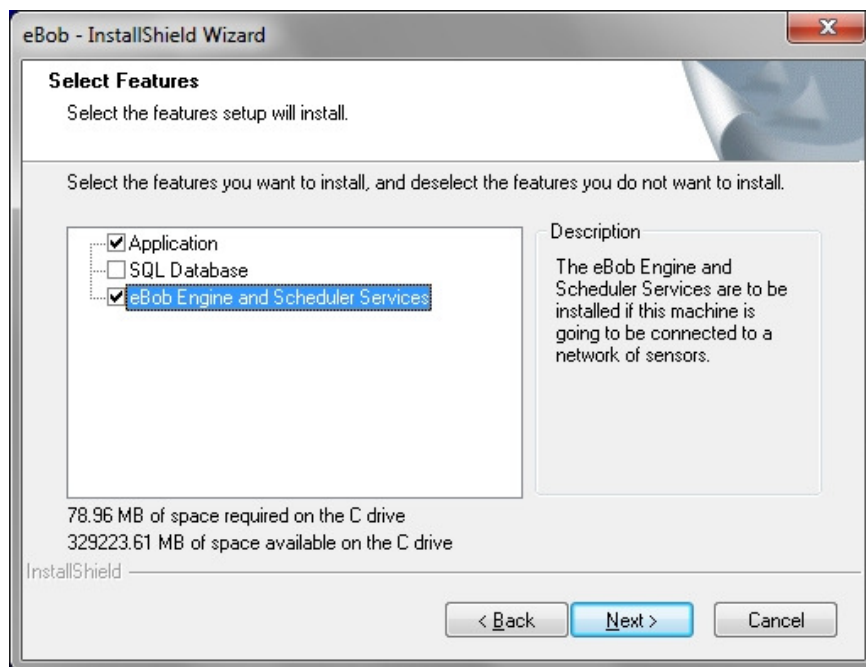

Figure 6
- c. If this installation is for a Site, check Application and also eBob Engine and Scheduler Services as shown in Figure 6.